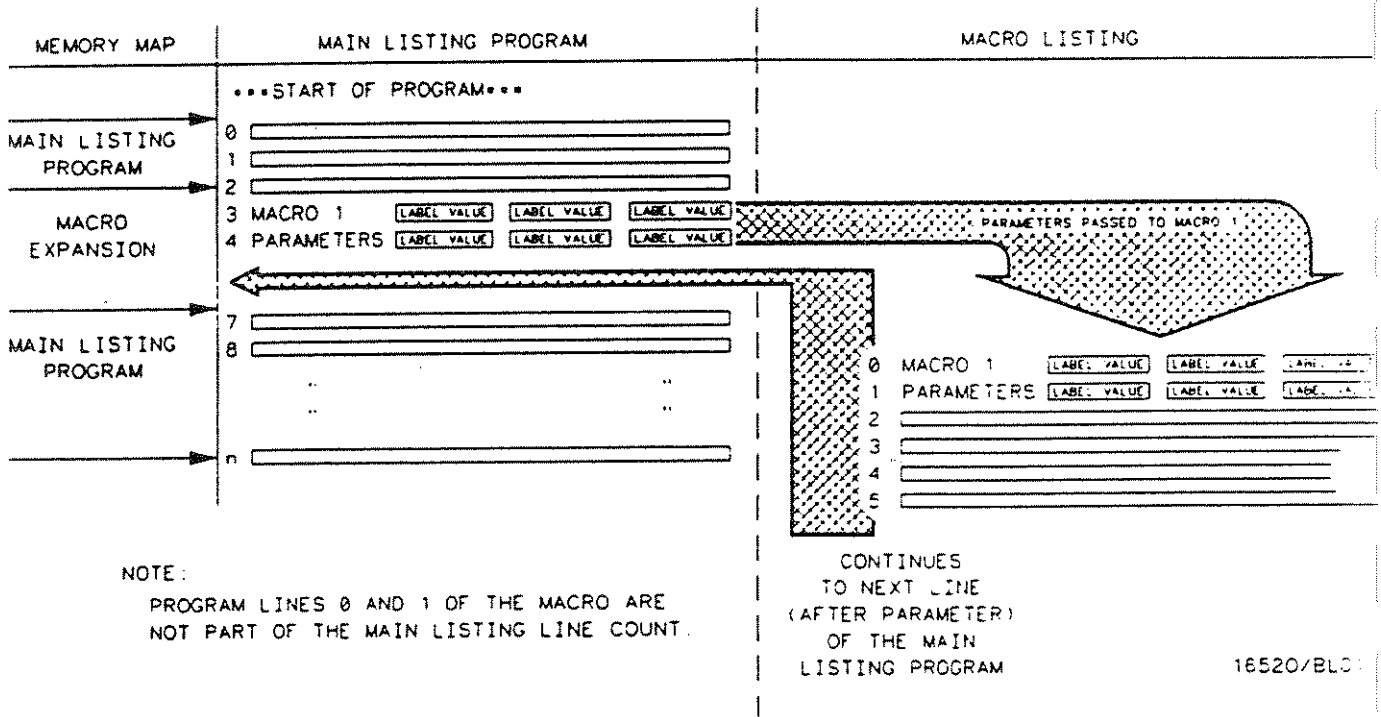

Figure 5-2. Setting Pass Parameters
**Setting Pass Parameters** There are two parameters available for each label in the macro list. They are labeled PARAM1 and PARAM2. In the example of figure 5-2, a macro call is made at line three of the main listing program.